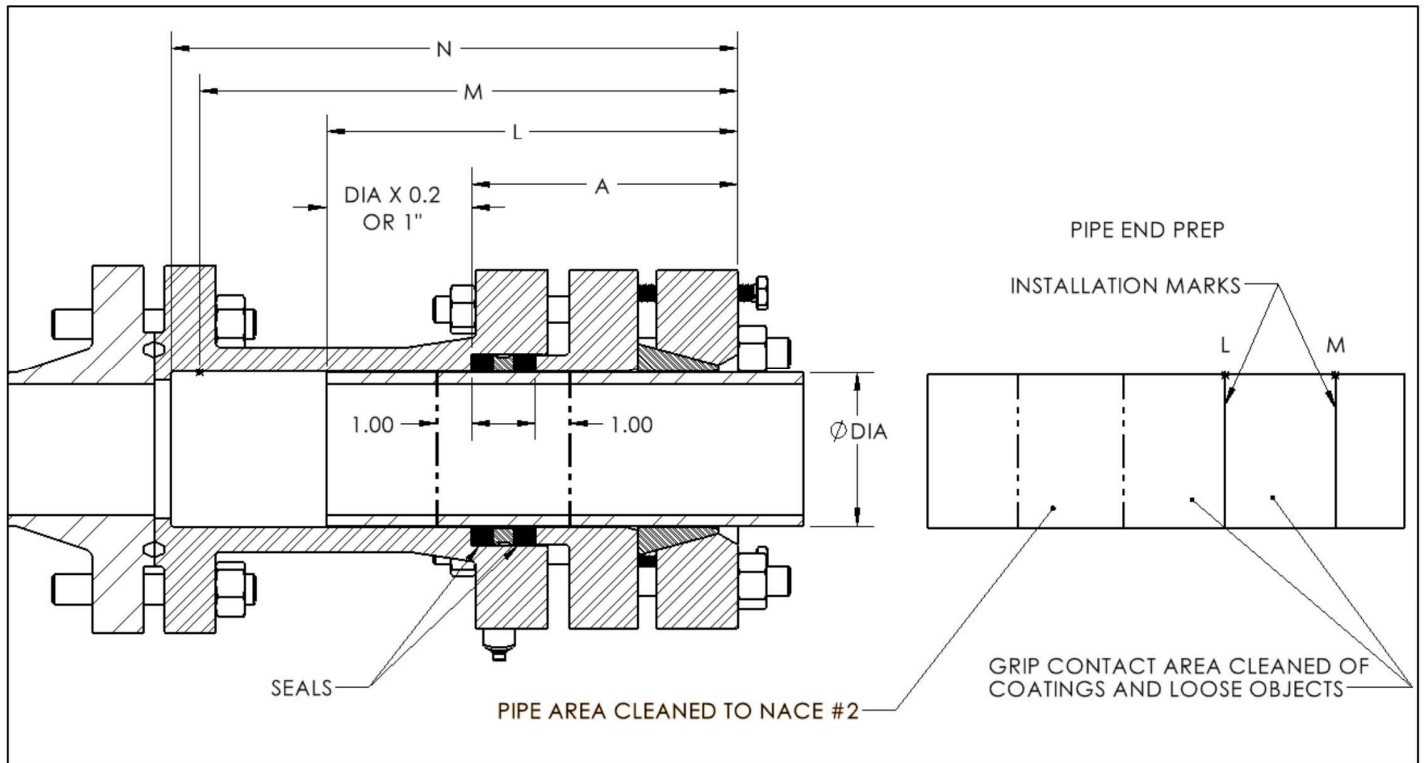

Figure 1
- The minimum distance the pipe must be inserted into the fitting is shown as "L" in Figure 1. To determine distance "L", first measure the distance from the outer surface of the grip flange to the end of the last seal shown in Figure 1 as "A". Next add 20% of the existing pipe outside diameter or a minimum of 1" whichever is greater.
9. Remove all coatings, rust, and scale from the pipe surface where the seals will contact the pipe (see Figure 1). A near-white finish, as noted in SSPC-SP10 / NACE No.2, is preferred 1" (25mm) before and after the seal. The cleaner the pipe surface the more positive the seal. Sandblasted surfaces should be buffed smooth.